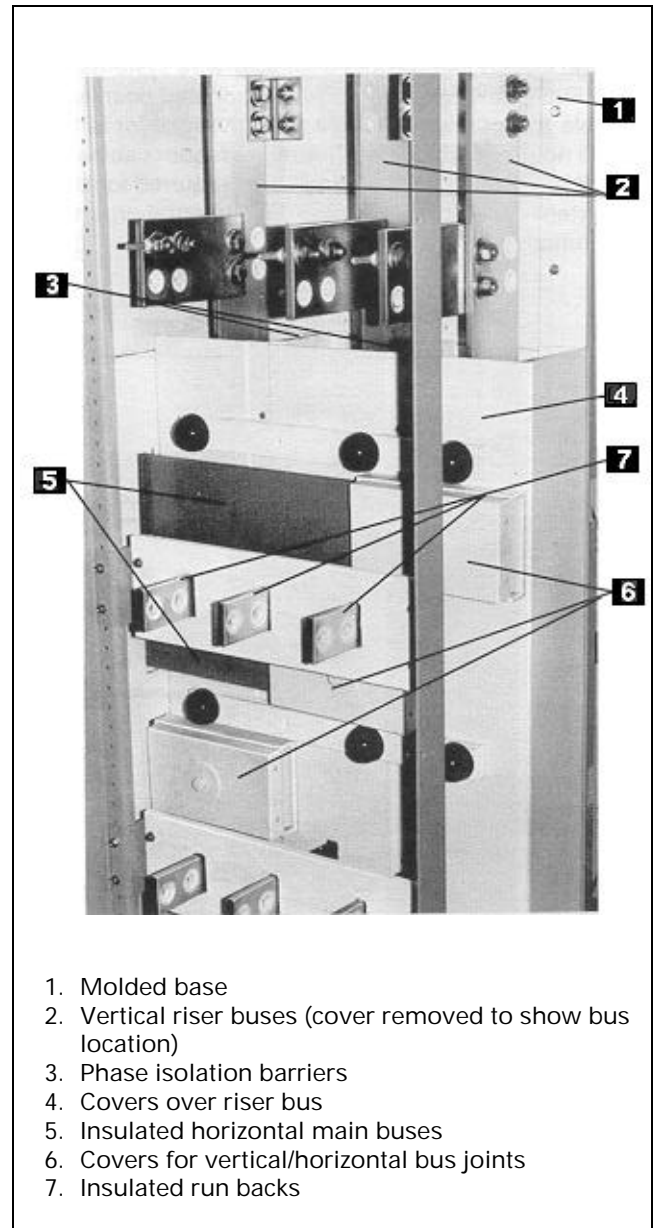

*Fig. 3-17. Transition section*
A vertical barrier (2), Fig. 3-17, between the transition section (1) and the first breaker section is always furnished.